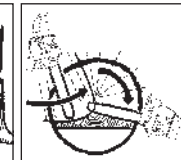

Fig. 11D
2. When diameter of wood being cut is greater than the bar length, make 2 cuts as shown (Fig. 11D).